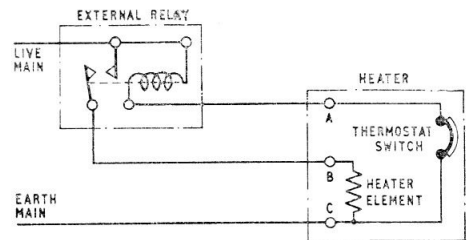

Fig. 3. Circuit diagram
1. This water heater is similar to that described and illustrated in the main chapter and is controlled by an external relay, the circuit diagram for the heater is given in fig. 3 of the main chapter. Also incorporated in the heater is a sacrificial anode made of 4% zinc alloy which attracts the impurities in the water and thus protects the container walls, water pipes and heater and
steel construction of the inner container the sacrificial anode is not fitted. The heater is controlled by an external relay and the circuit diagram for the heater is given in fig. 3 of the main chapter.